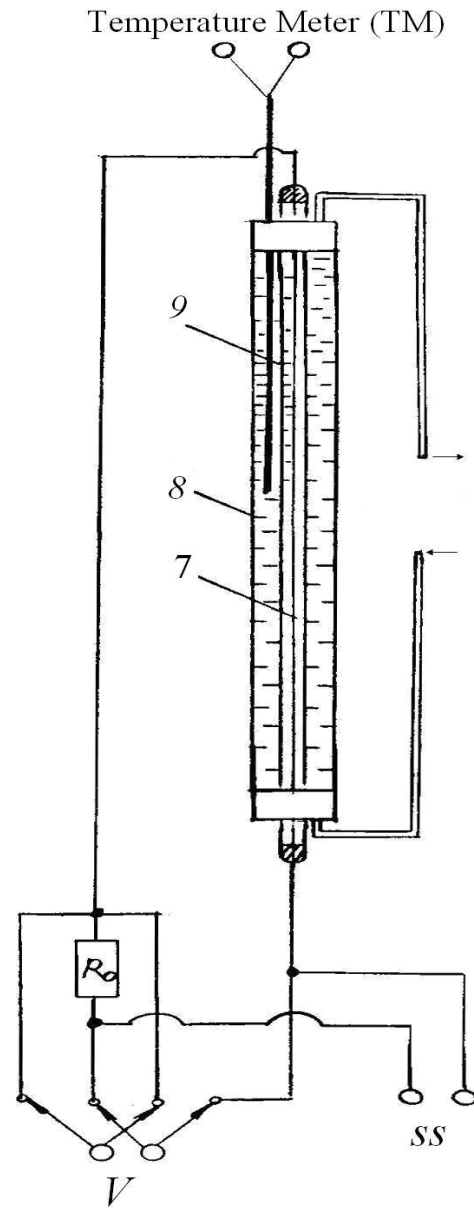

Fig.2. The working part of the scheme
Figure 2 presents the fundamental scheme of the working part, electric power scheme and measurement. Heated tungsten hot-wire (7) situated in a cylindrical glass container (8) with double walls. Between these walls there is water. The inner tube is vacuumed till 10^{-5} (express pressure in millimeters of mercury).